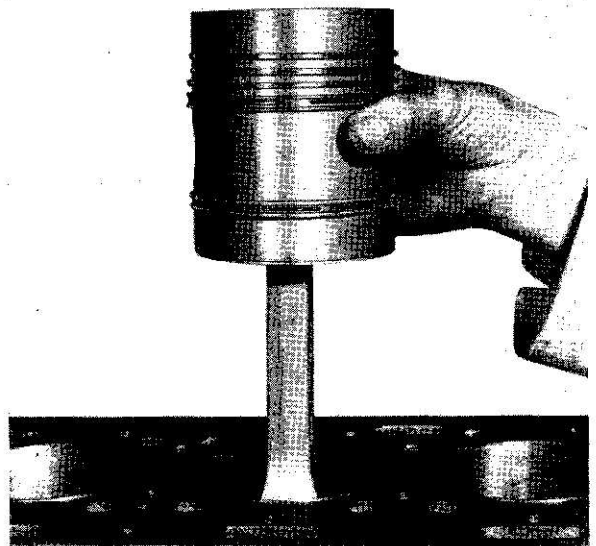

Fig. 2
5. Push pistons and connecting rods out of the top of the cylinders (Fig. 2).